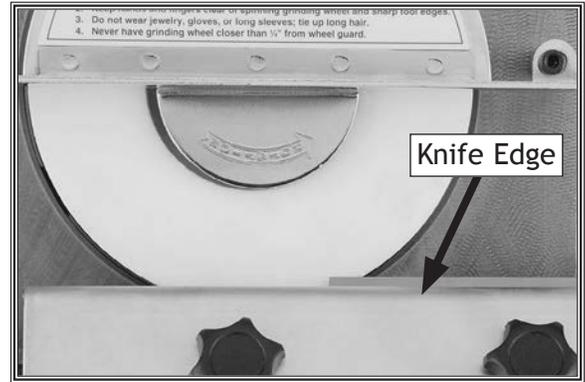

Figure 18. Knife positioned over right side of wheel.
12. Once you are satisfied with position of knife relative to wheel, raise grinder table until wheel is below table surface, then move slide bar so end of knife is over right-hand side of wheel, as shown in **Figure 18**.